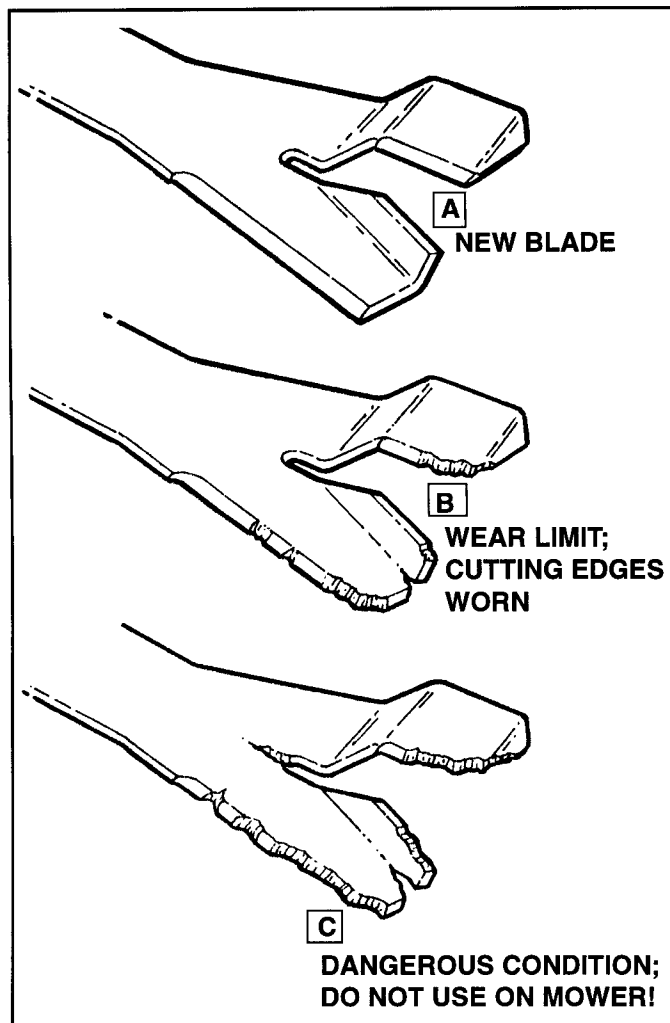

FIGURE 9.6
- B. Consult the Blade Drawings shown in Figure 9.6 to determine if a blade can be sharpened and safely reused, or if it must be replaced with a new part. Consult the SNAPPER "ACCESSORIES" Manual for Part No.
- B. Clean and inspect Blades for excessive wear or damage. Refer to Figure 9.6.